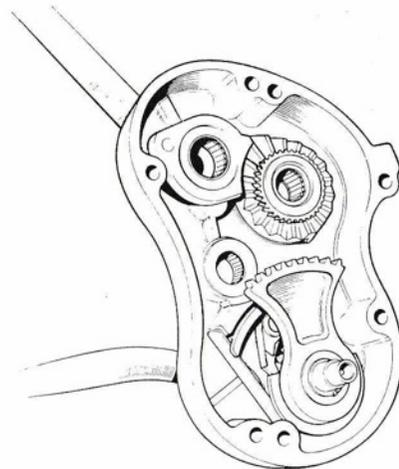

Fig. 38 Quadrant ratcheted to rearward position.
- 9 Position the quadrant inside the cover to the low gear position — do this by lifting the gearshift lever the requisite number of times to ratchet the quadrant to the rearward position. (See Fig. 38.)